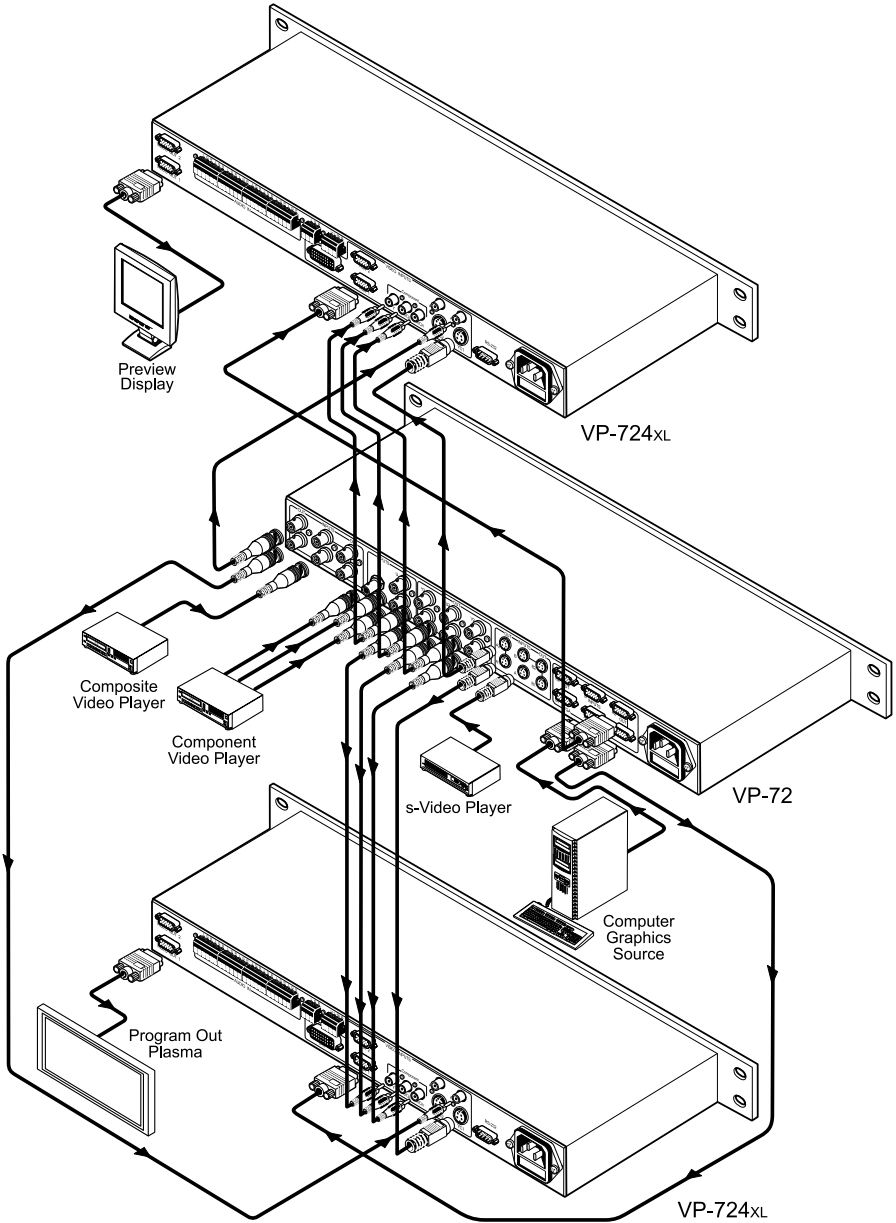

Figure 4: Connecting the VP-72 Multiformat 1:2 Distribution Amplifier
To connect the **VP-72** to two **VP-724xl** units—the first a preview device, and the second a program device—as the example in Figure 4 illustrates, do the following1:
5. Connect the power connector (not shown in Figure 4), and adjust the Gain and EQ., controls, if required (see section 4.3).